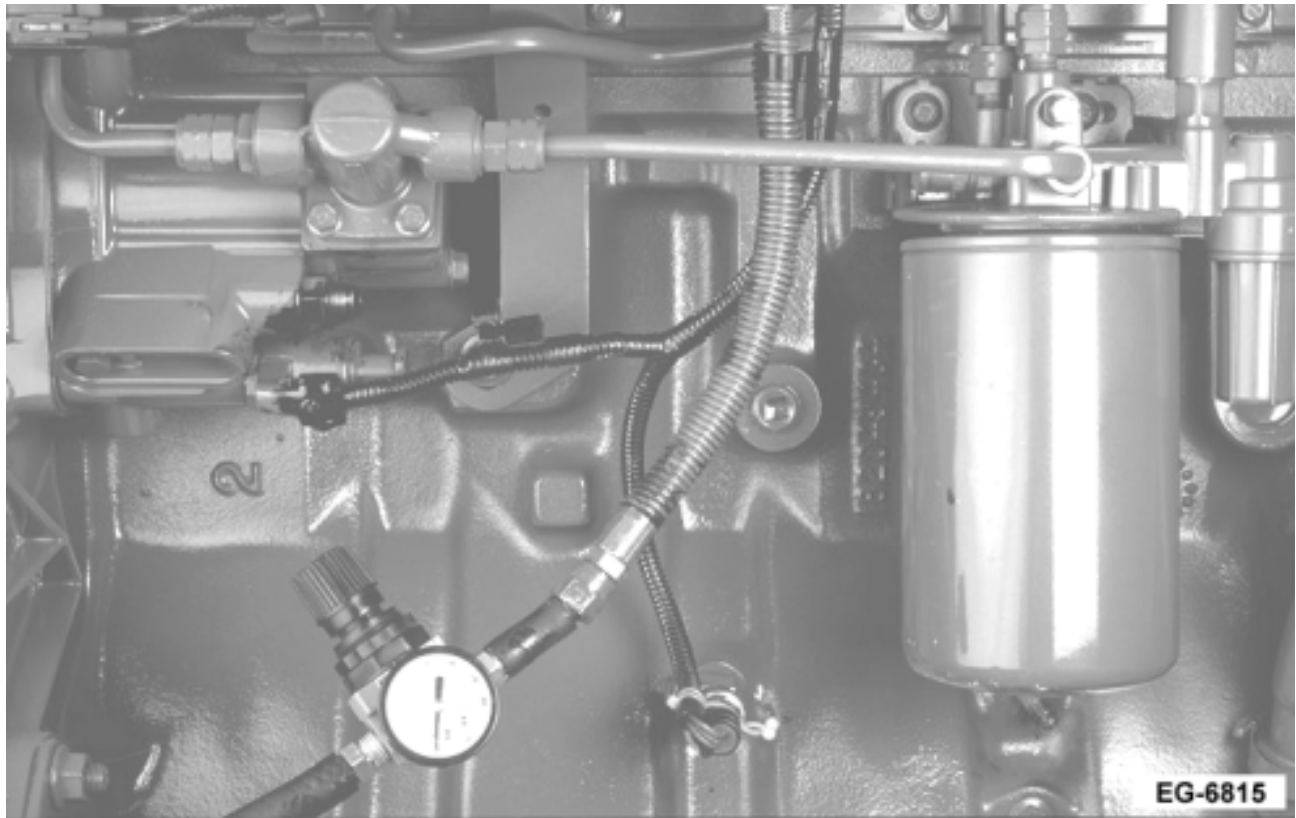

Figure 48 ICP Leakage Test
2. Remove ICP sensor and adapter plug (used previously) from high pressure hose. Reattach hose to oil manifold. Remove the other end of the hose from the high pressure pump and connect an air pressure regulator to the (removed) hose as shown in the illustration ICP Leakage Test (See Figure 48, page 87).